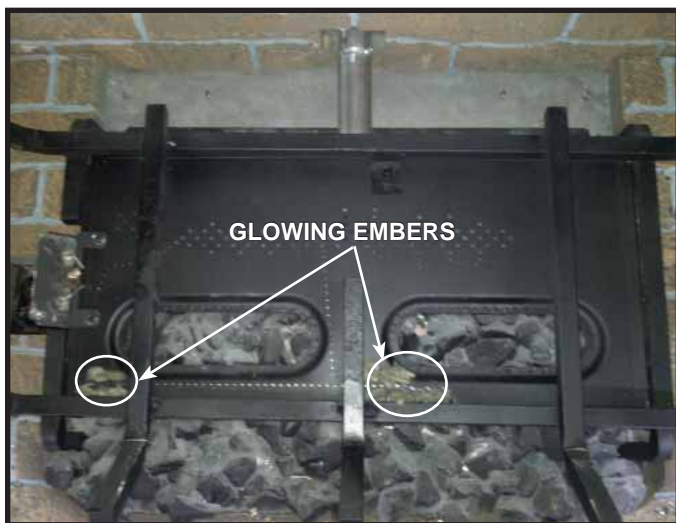

Figure 14.5. Location of Glowing Embers
- Place dime-size pieces of Glowing Embers® just in front of the port trail, but not on or in between the ports (see Figure 14.5). Care should be taken so that the ports are not covered. Failure to follow this procedure will likely cause lighting and sooting problems.